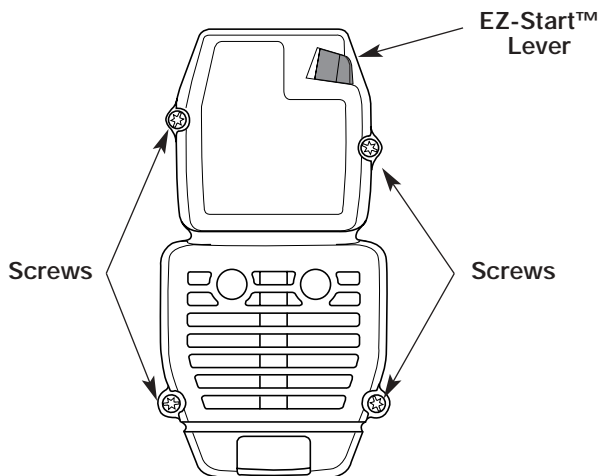

Fig. 24
1. Remove the four (4) screws securing the air filter/muffler cover (Fig. 24). Use a flat blade or T-20 Torx bit screwdriver.
2. Insert the four (4) screws into the holes in the air filter/muffler cover (Fig. 24) and tighten. **Do not over tighten.**